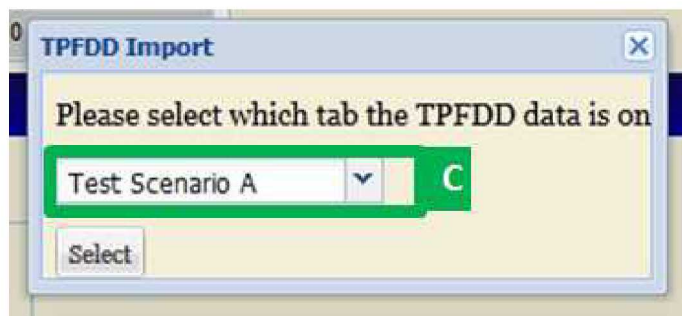

Figure 16 Selecting TPFDD data.
4. In the *TPFDD Import* window, all tabs (or worksheets) found in the Excel file will be listed in the dropdown menu. Select the tab that contains the TPFDD data (step C in Figure 16). Click “Select” when finished.